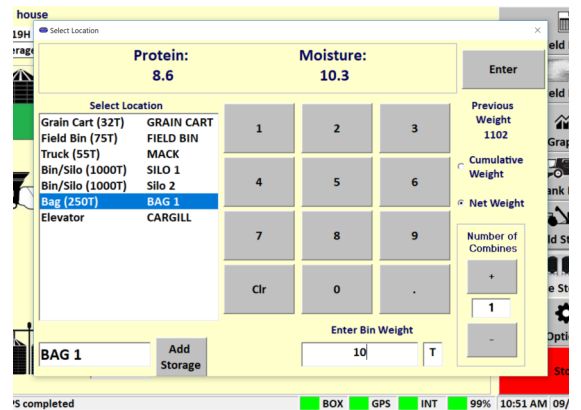

Figure 3-21. Grain Logistics Grain Tank Weight Counter
- (Optional) Enter the max Tank Weight for each Crop Type. When a Default Tank Weight is entered the Grain Logistics Software will populate the nominated default tank weight into the Tank Weight Counter as shown in figure 3.21.